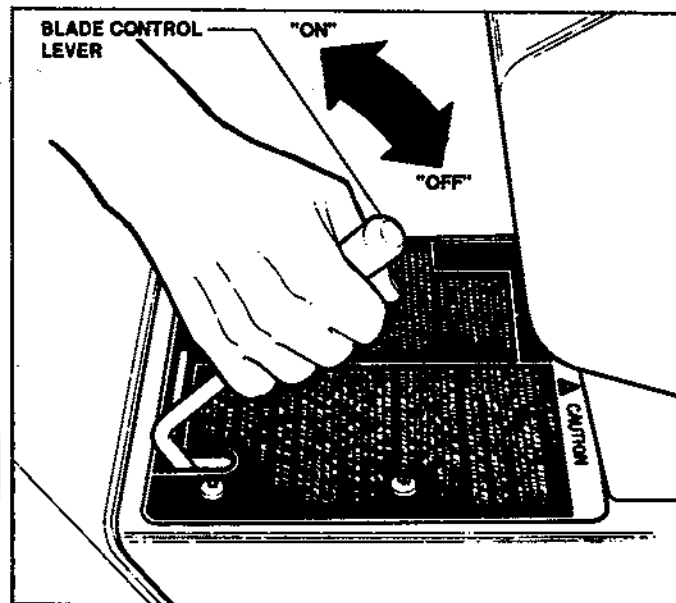
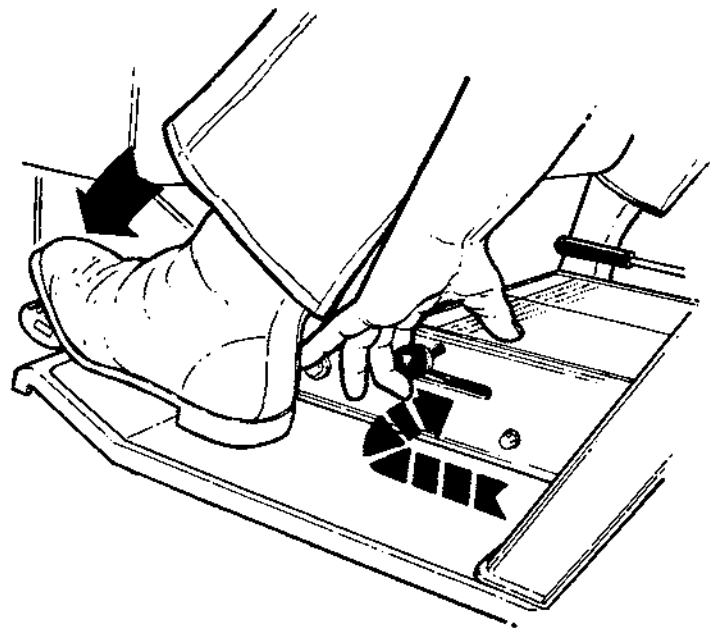

FIGURE 4
FIGURE 7
**MOWER BLADE:** *STOP MOWER BLADE* by pushing BLADE CONTROL lever downward to "OFF". See Figure 4.
1. PUSH BLADE CONTROL LEVER downward to "OFF" position (Fig. 4) and fully depress the CLUTCH/BRAKE pedal (Fig. 7), so that Safety Interlock System will allow engine to start.
Depress CLUTCH/BRAKE PEDAL. Pull PARKING BRAKE LEVER "UP" while releasing pedal. See Figure 7.